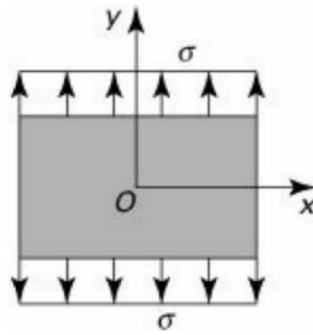

Figure 2: Rectangular plate subjected to uniform tensile stress.
A rectangular plate is subjected to uniform tensile stress  $\sigma$  along its upper and lower edges as shown in Fig. 2. Determine the displacements  $u$  and  $v$  in terms of  $x$ ,  $y$ , and material properties ( $E$ ,  $\nu$ ) using Eqns. (1) and (2) and the appropriate conditions at the origin.